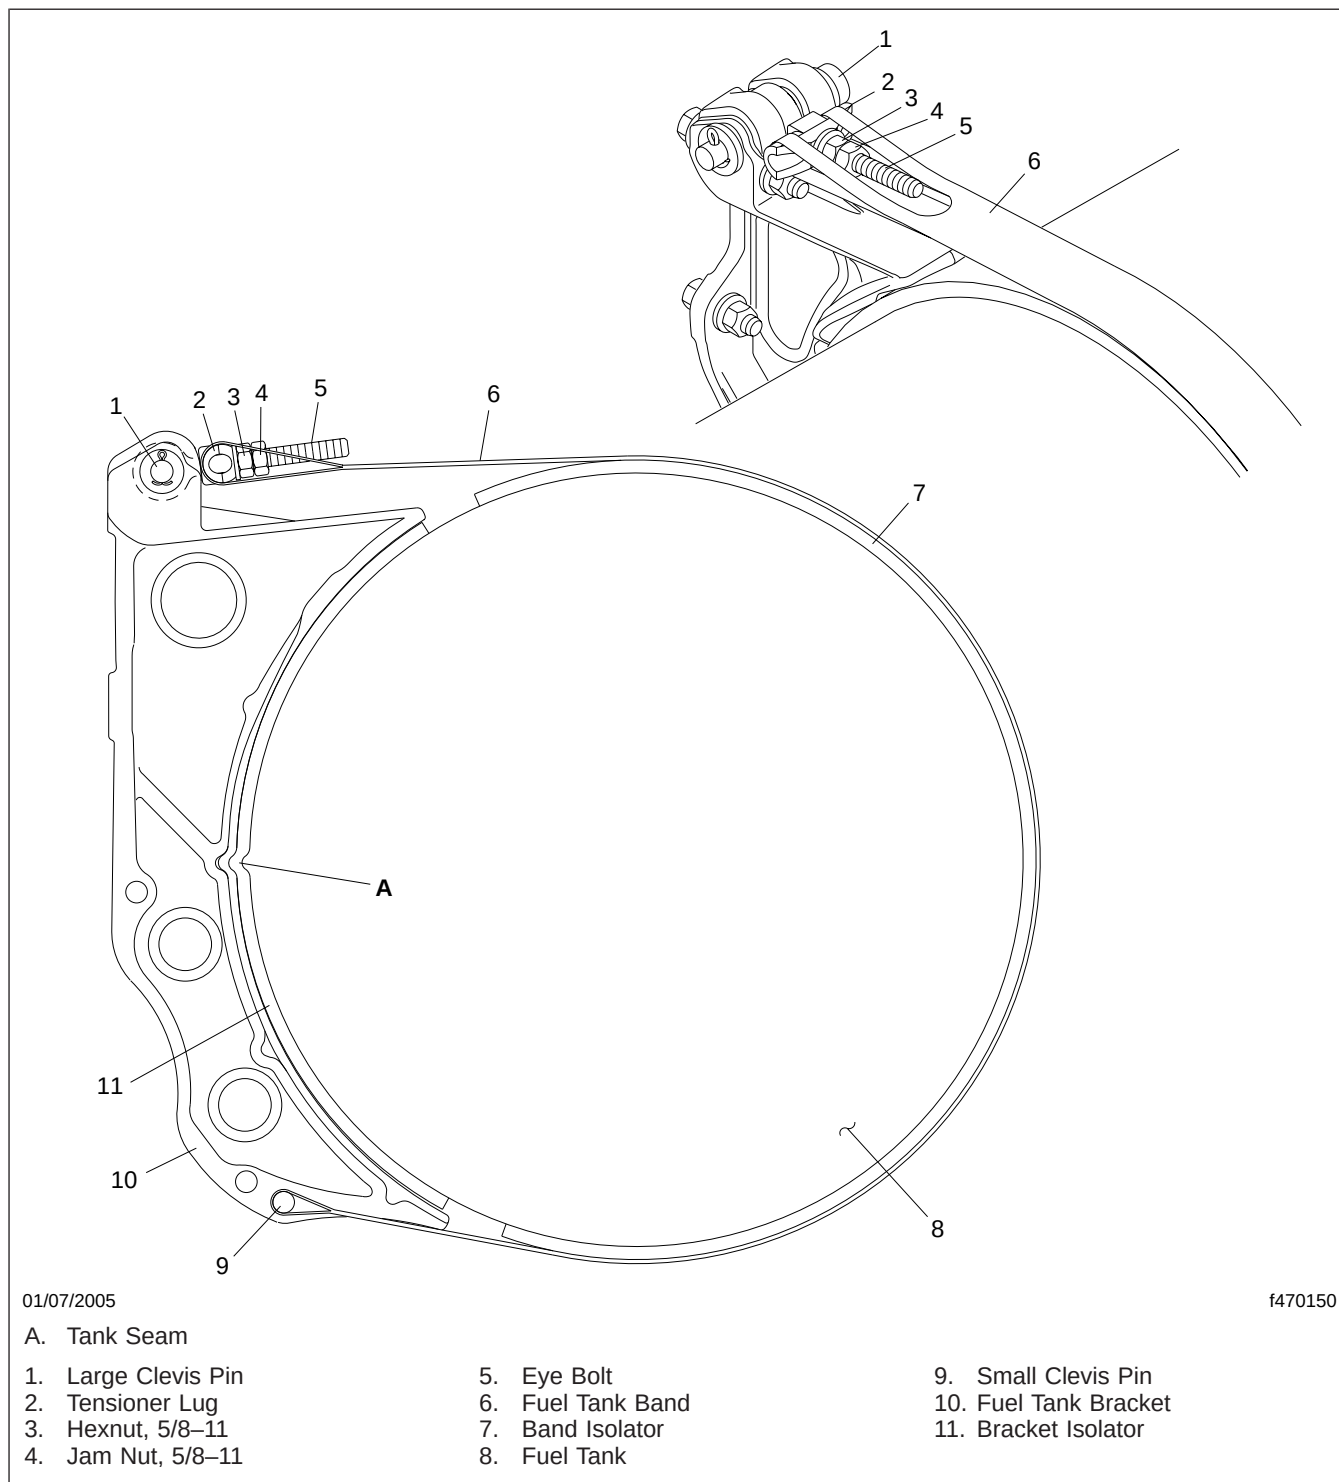

Fig. 3, Fuel Tank Band Assembly
3. Install the other tank band around the tank. Insert the isolators under the brackets so that the relief in each isolator aligns with the tank longitudinal weld seam. See Fig. 3.